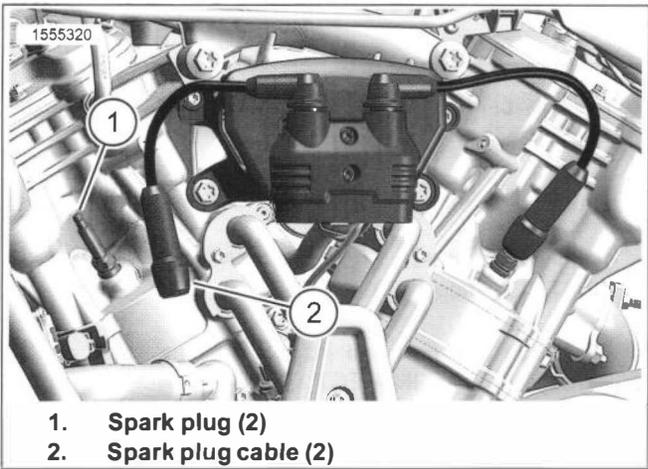
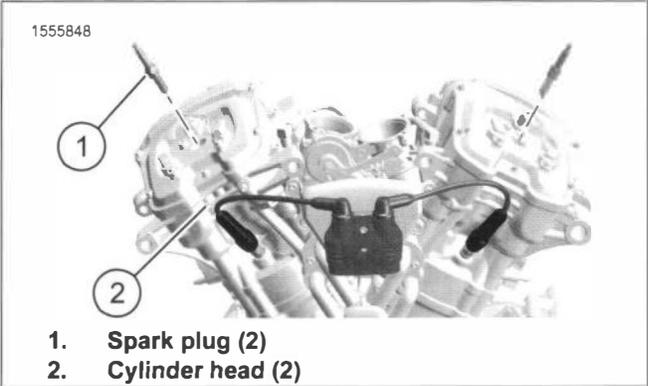

Figure 2-43. Outer Spark Plugs
Figure 2-44. Inner Spark Plugs
1. See Figure 2-43. Remove spark plug cables (2) from outer spark plugs (1).
3. See Figure 2-43 and Figure 2-44. Install spark plugs (1). Tighten.